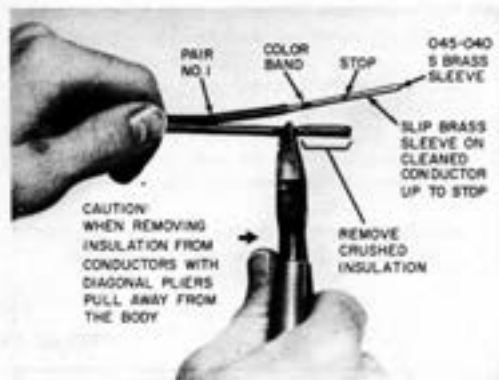

Fig. 4—Removing Insulation and Installing Brass Sleeve (Drop Wire)
| POLE AT ROAD EDGE (WITHIN 50 FT OF FAR EDGE (FIG. 4) * | D |
| POLE AT ROAD EDGE (WITHIN 50 FT OF FAR EDGE (FIG. 4) * | F |
| POLE AT ROAD EDGE (WITHIN 50 FT OF FAR EDGE (FIG. 4) * | H |
| NO OVERHANG BACK OF OBSTRUCTION (FIG. 4) | O |
| PUBLIC ROADS GENERALLY * POLE AT ROADS EDGE (WITHIN 50 FT OF FAR EDGE [FIG. 4]) * | C D |
| PUBLIC ALLEYS GENERALLY POLE AT ROADS EDGE (WITHIN 50 FT OF FAR EDGE [FIG. 4]) | E F |
| RESIDENTIAL DRIVEWAYS GENERALLY POLE AT ROADS EDGE (WITHIN 50 FT OF FAR EDGE [FIG. 4]) | G H |
- (4) Remove insulation, clean conductors with diagonal pliers, and install brass sleeves (Fig. 4).